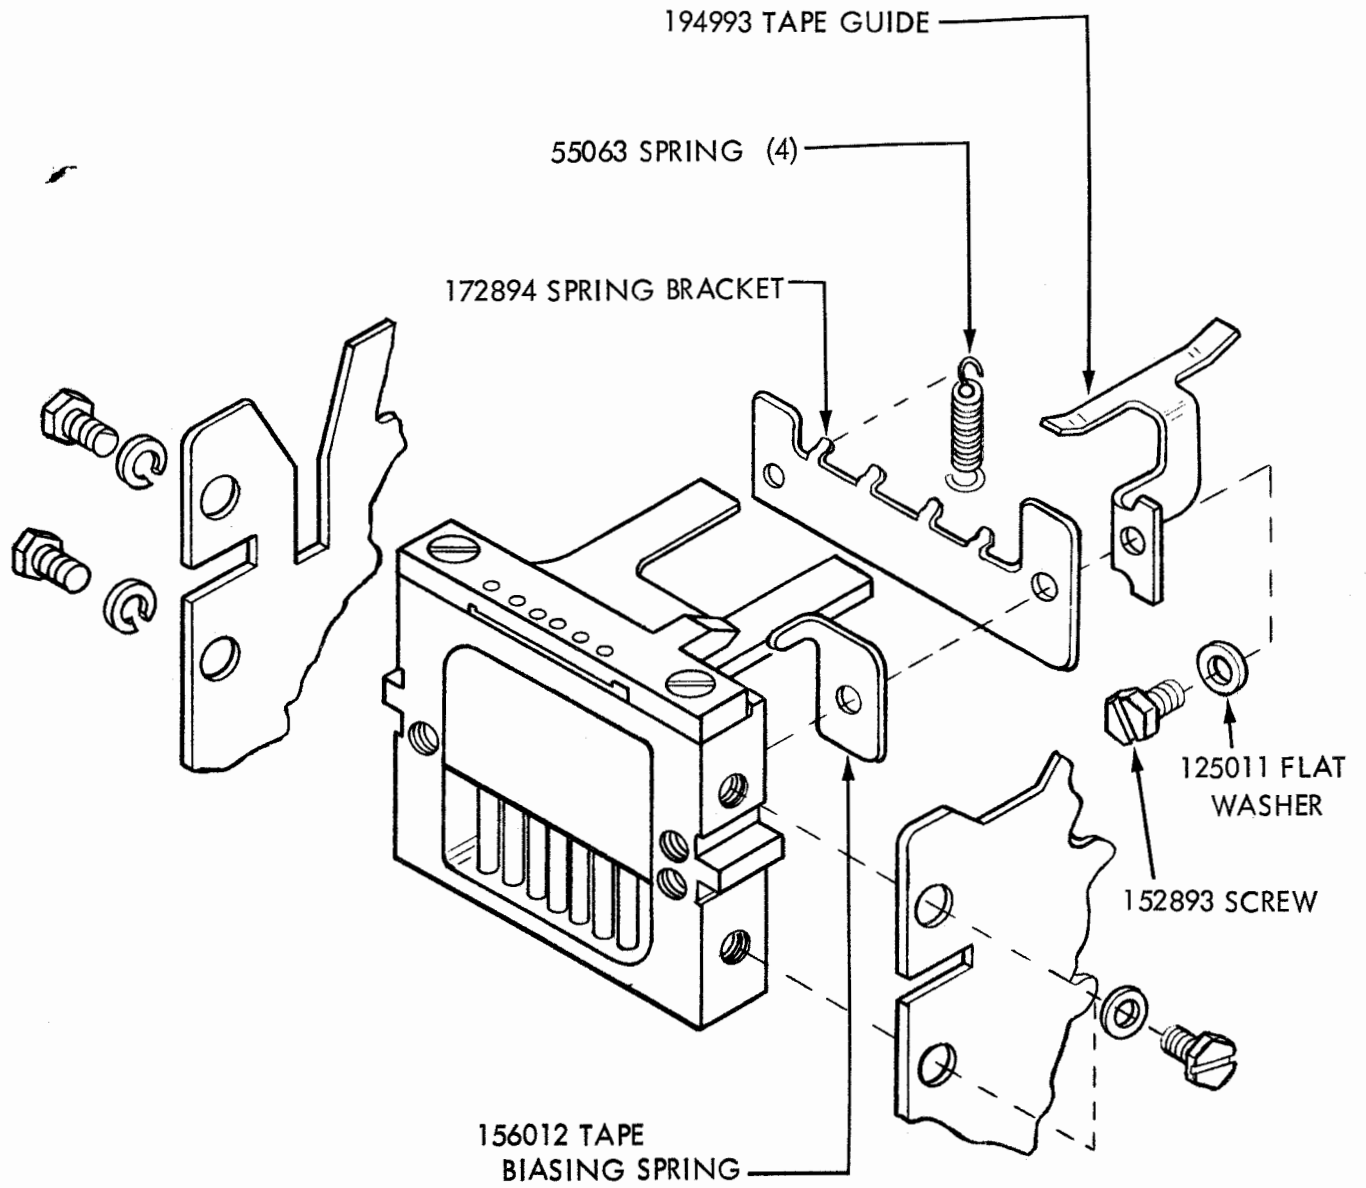

FIGURE 2
(2) If the unit being modified is equipped with a power retracted (retractable slide) punch, reassemble in the following order: (Figure 2)